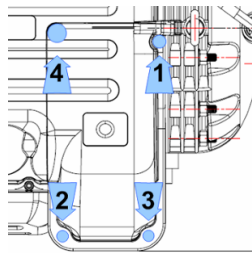

Figure 24 – Mains Input Cover Install
13. Place the New Mains Input Cover and secure it with the fasteners. Tighten according to the following sequence. Refer to Figure 24 (Mains Input Cover Install).